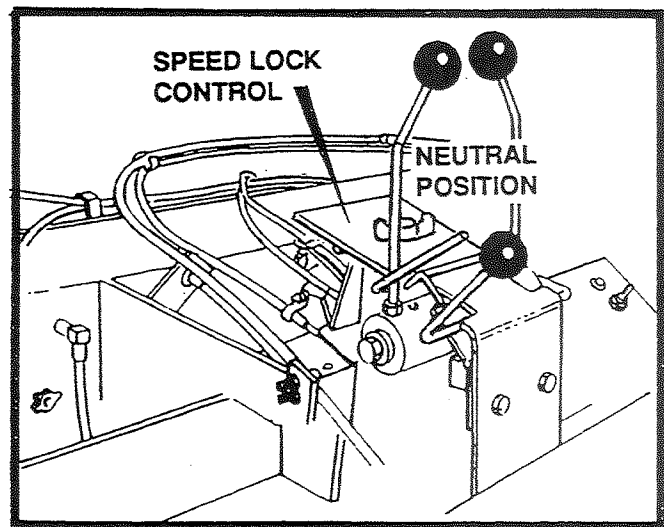

FIGURE 5
6. When stopping, move both steering levers to the neutral position. See figure 5.
7. When paving, a constant speed is necessary to lay an even asphalt mat. Use the speed lock control to hold and retain steering levers in a fixed position. See figure 5.